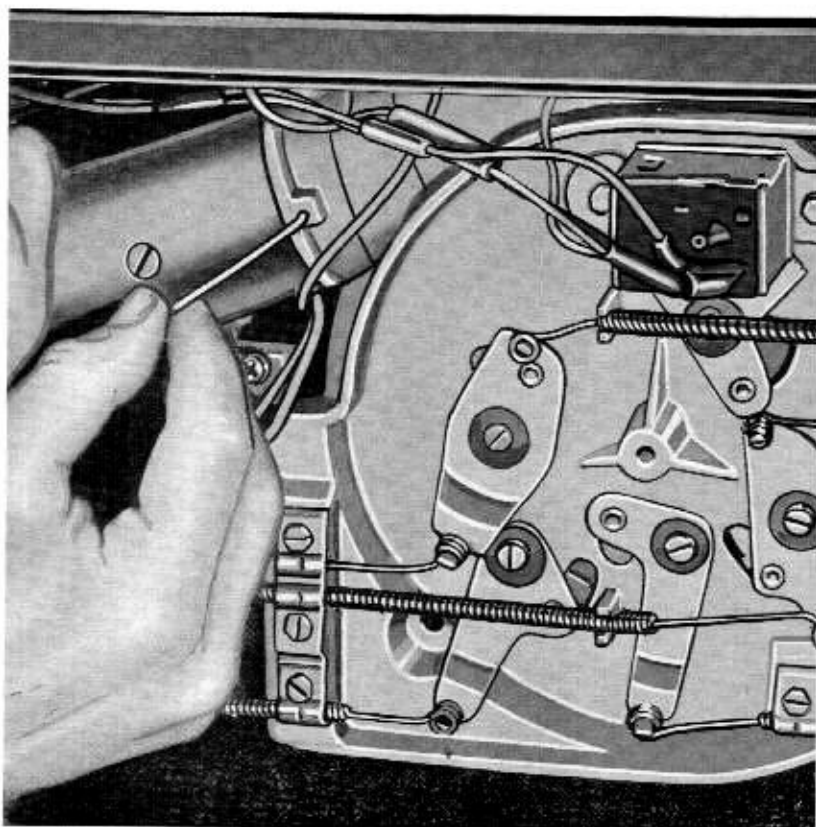

Fig. 3-18—Removing Servo Motor Set Screw—(61LT-8828)
- b. If motor runs, loosen the motor attaching set screw and remove the motor from the servo. (See figure 3-18.) Inspect the servo drive coupling and replace the coupling if it is damaged. If the coupling is satisfactory, disconnect the seven Bowden cables from the face of the servo. Remove the thermostatic switch from the servo and move it to one side. Exercise care not to damage the capillary tube. Remove the servo from the dash panel and remove the contact cover plate assembly and control head Bowden cable from the back of the servo. Examine the motor driveshaft for breakage or for worn or broken worm gear teeth. Inspect the ring gear teeth on the outside diameter of the cam and plate assembly for worn or broken teeth. Replace parts as necessary. Pack the assembly with petroleum jelly.